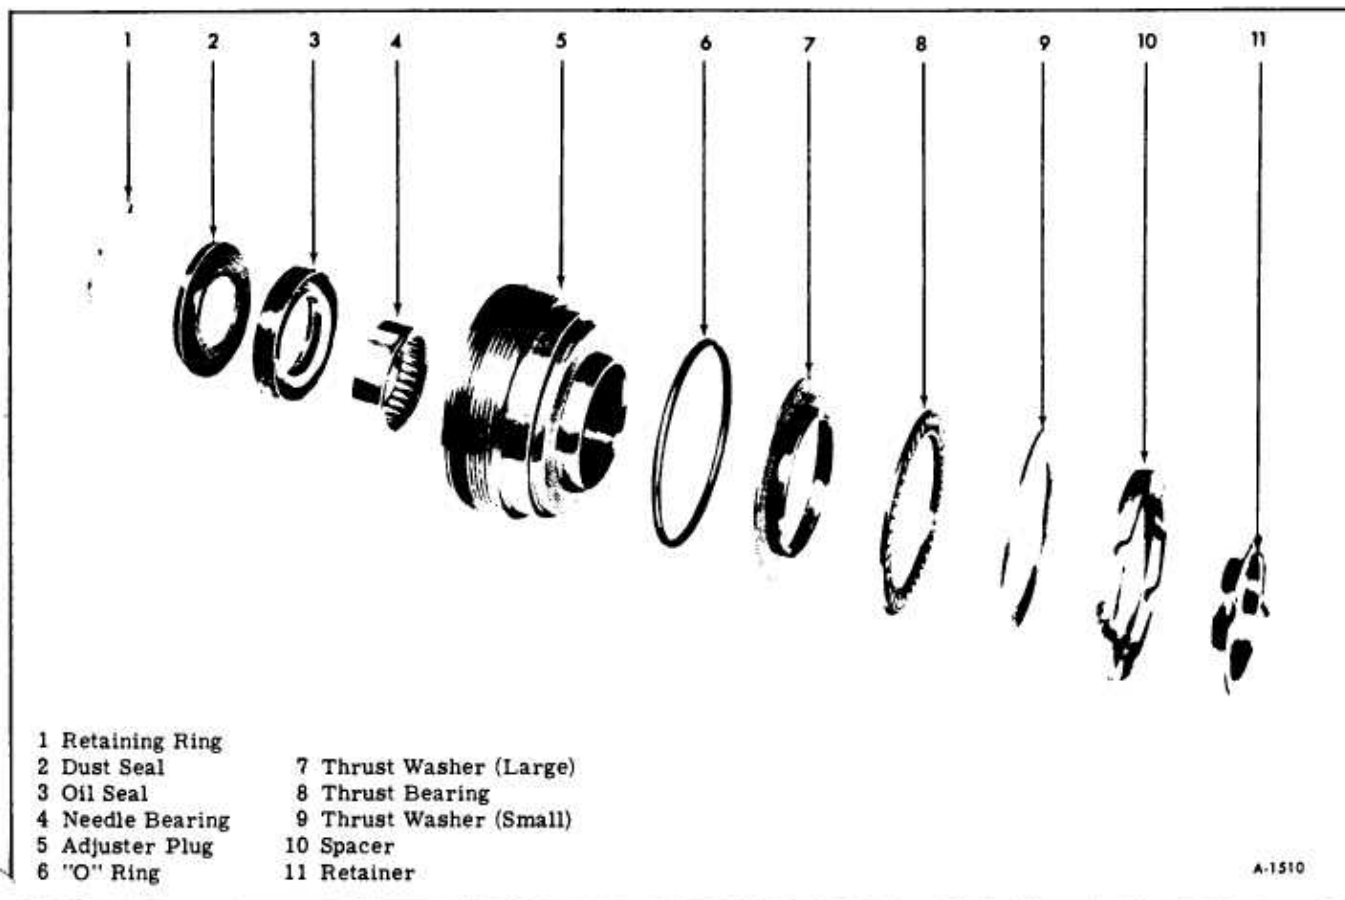

Figure 28—Adjuster Plug (Exploded View)
1. If the oil seal ONLY is to be replaced, and not the bearing, install the adjuster plug (figure 28)